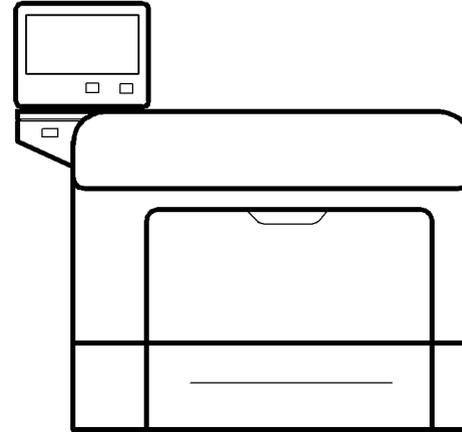

Figure 2 Xerox® VersaLink® B400
- Xerox® VersaLink® B400, Figure 2.